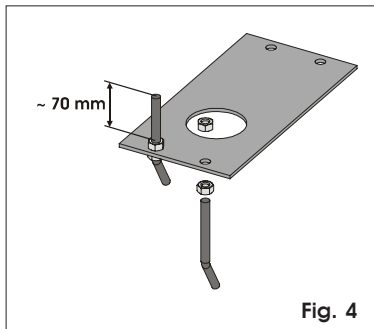

Fig. 4
- 1) Assemble the foundation plate as shown in figure 4.
- 3) Prepare a foundation plinth as shown in fig.4 and wall the foundation plate, supplying one or more sheaths for routing electric cables. Using a spirit level, check if the plate is perfectly level. Wait for the cement to set.